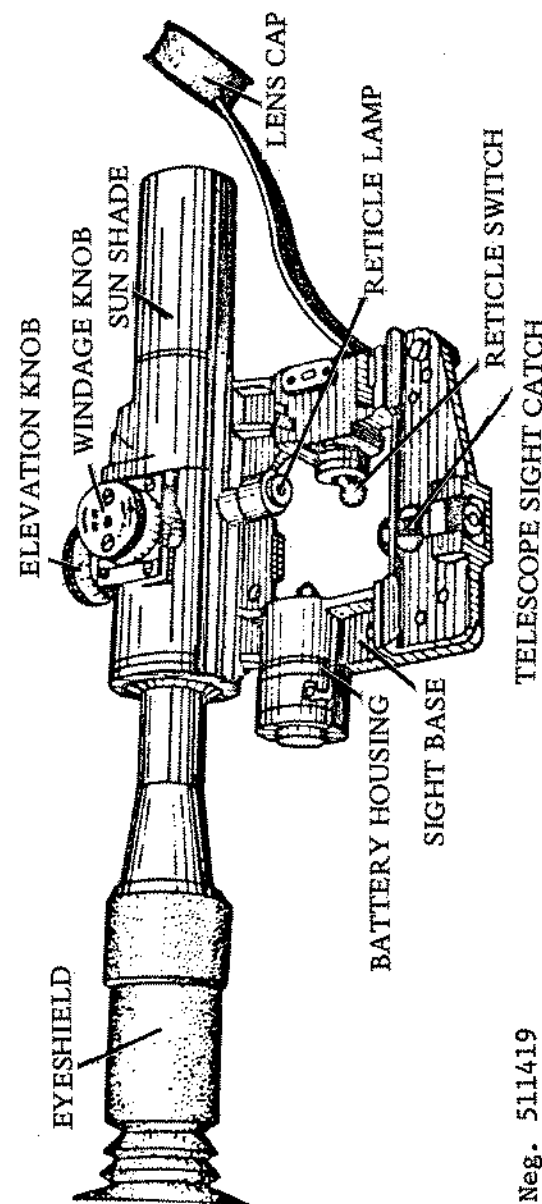
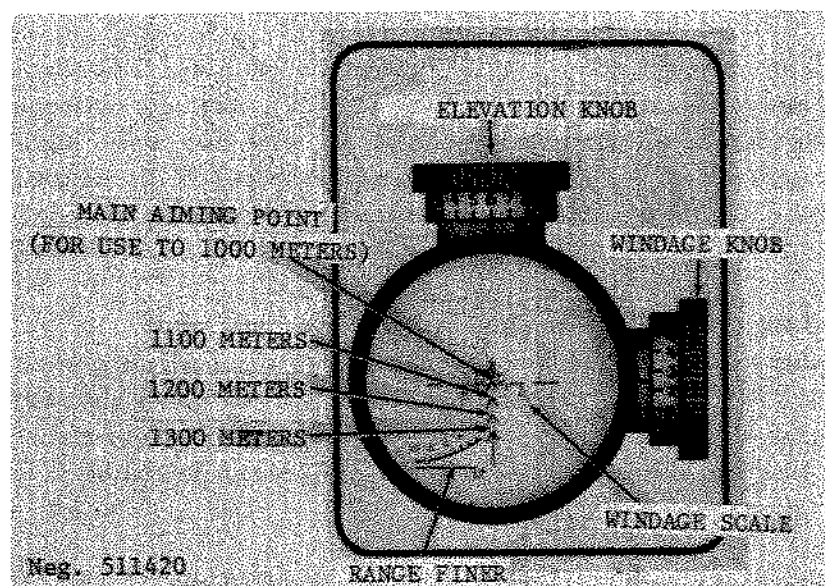

Figure 120. PSO-1 telescopic sight.
Figure 121. PSO-1 reticle pattern.
d. If the PSO-1 telescopic sight (fig 120) is used, rotate the elevation knob until the figure that corresponds to the range in hundreds of meters is aligned with its index. The range can be fairly accurately determined by use of the range finder located in the lower left of the telescope reticle (fig 121). This rangefinder is graduated to the height of a man (5'7"). Look through the telescope and place the horizontal line at the bottom line of the target. Move the telescope until the upper (curved) line just touches the top of the target's head. The number indicates the
range in hundreds of meters; if the target falls between numbers, the remaining distance then must be estimated. When the range is determined and set into the elevation knob, use the point of the top chevron on the reticle as an aiming point. The three lower chevrons are used for firing at 1100, 1200, and 1300 meters with the elevation knob set at 10. The horizontal scale extending out from the sides of the top chevron are used for hasty wind corrections; deliberate changes are made by rotating the windage knob (fig 120).
e. For firing when the light is dim, illuminate the reticle by turning on the switch in the telescopic sight mount (fig 120). If active infrared light sources are believed to be in use by the opponents, set the range drum (fig 120) at "4" and switch the infrared detector into place. Scan the area to the front; if any active infrared light sources are in use they will appear as
a. Clear the SVD, but do not set the safety to safe or replace the magazine. Release the telescope sight catch (fig 120) and pull the telescope off the rear. Place the telescope in its carrying case. Remove the cheek pad (fig 119).
l. Replace the cheek pad and, while holding the telescope sight catch (fig 120), slide the sight onto its seat from the rear. Replace the magazine, press the trigger and move the safety upward.
a. The main accessory for the SVD is its PSO-1 telescope. This scope has an illuminated reticle powered by a small dry cell. The battery housing is located at the bottom rear of the telescopic sight mount (fig 120). To change batteries, press in and rotate the battery housing counterclockwise. Remove the old battery and replace with the same type. The reticle lamp can be replaced by unscrewing its housing (fig 120) and removing the bulb. The reticle light is turned on or off by its switch (fig 120). The lens cap should always be in place except when actually using the telescope for aiming.